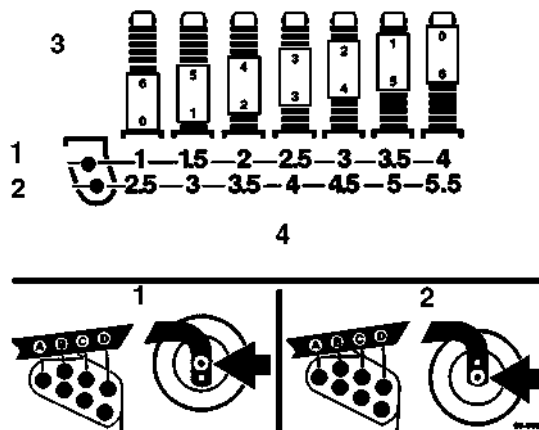

Figure 8
**Note:** Unless all castor wheel axles are not in the same location, axles do not have to be relocated. All, however, must be in the same holes (Fig. 8).
The height of cut is adjustable from 25 to 140 mm in 13mm increments. Positioning the castor wheel axles in the top holes of the castor forks (Fig. 8) allows low-range height-of-cut settings from 25 to 102 mm; positioning the castor wheel axles in the lower holes of the castor forks (Fig. 8) allows high-range height-of-cut settings from 63.5 to 140 mm.